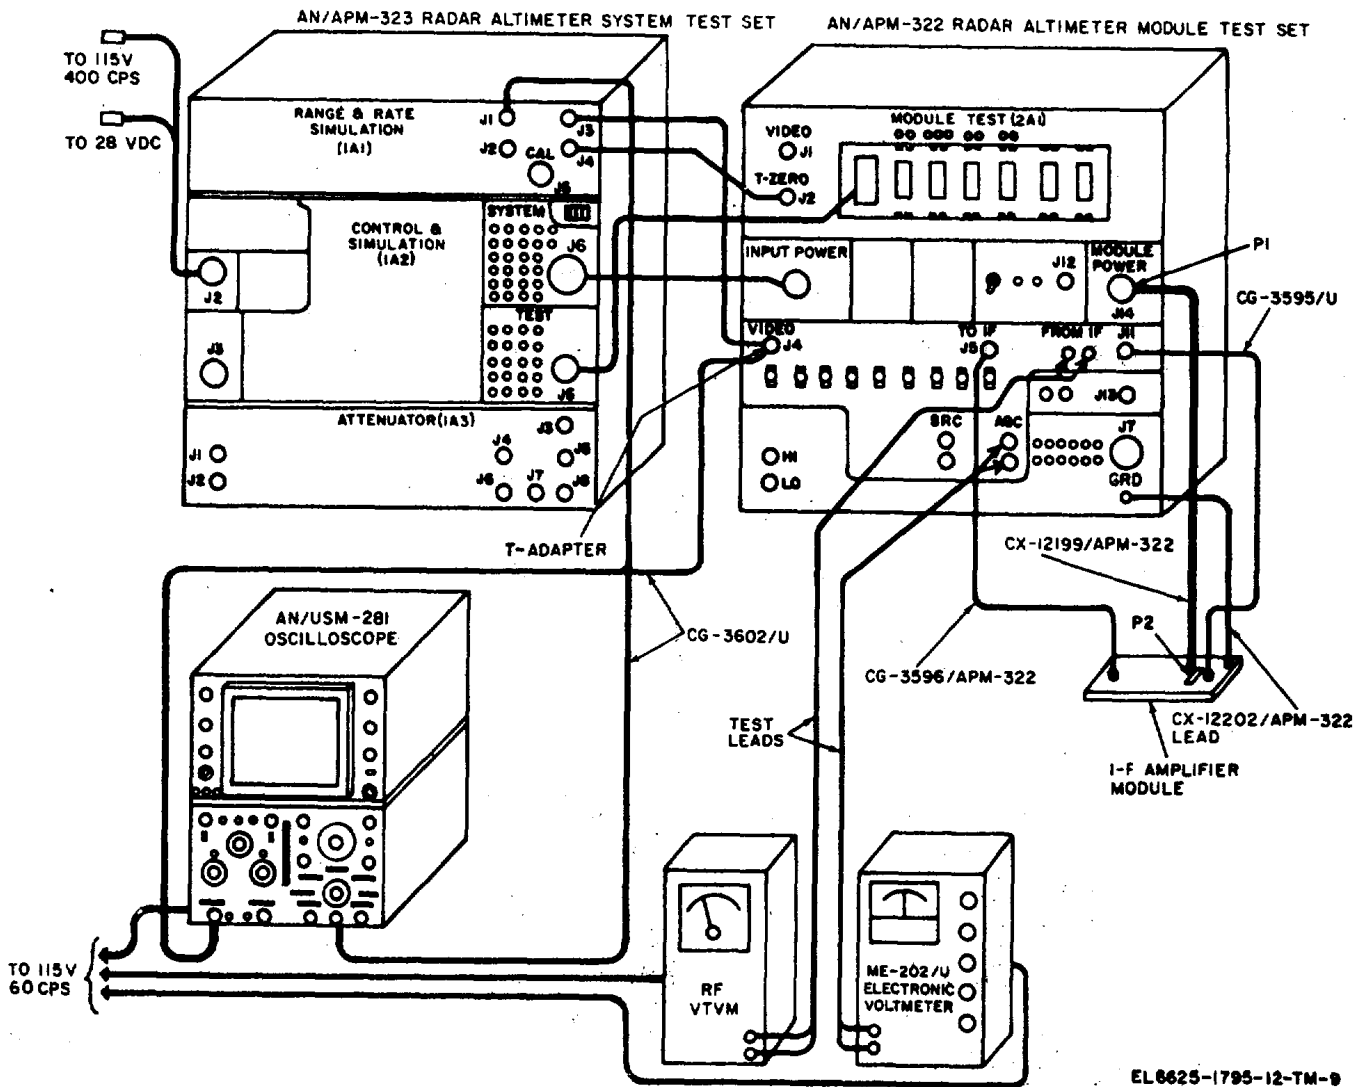

Figure 2-5. Test Set, Radar Altimeter Module AN/APM-322, If amplifier module test setup.
(2) Connect the IF amplifier module to be tested, the (oscilloscope, voltmeter, electronic, AN/URM-145, and the ME-202/V as shown in figure. 2-5. Use the Lead, Electrical CX-12202/APM-322 to ground the IF amplifier module can. Connect one end of the lead to the module test set GRD terminal in POWER SUPPLY MODULE section. Secure the other end of the lead to the module can, using one of the module mounting screws. Failure to do so may cause the module to go into oscillation.
(3) Connect the oscilloscope channel B input to the module test set FROM IF jacks, using a high impedance probe. Adjust the system test set VIDEO AMPLITUDE control for 1.0 + 0.1 peak amplitude pulse on the oscilloscope channel A input. This is the standard test signal input.